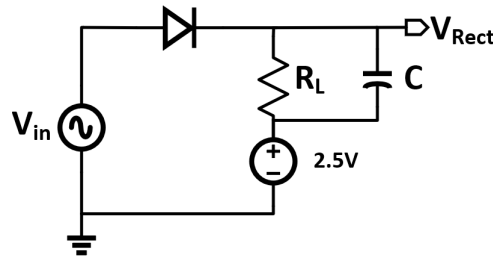

Figure 9: Half wave rectifier.
1. Assemble the circuit shown in Fig. 9 using values of  $R_L$  and  $C_L$  given in Table 4. Apply  $V_{in} = 2.5 + 2.5\sin(2\pi 60t)$  from CH-A. The 2.5V voltage source at the output can be directly taken from the 2.5V DC pin of the ADALM1000.